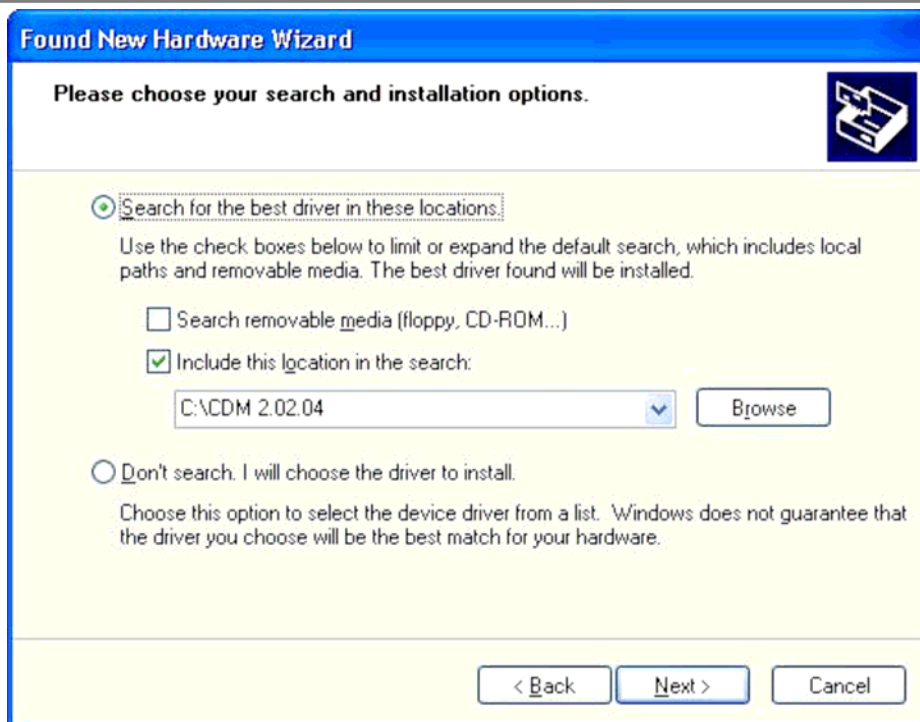

Figure 2.8
- Select "Search for the best driver in these locations" and enter the file path in the combo-box ("C:\CDM 2.02.04" in figure 2.8 below) or browse to it by clicking the browse button. Once the file path has been entered in the box, click next to proceed.